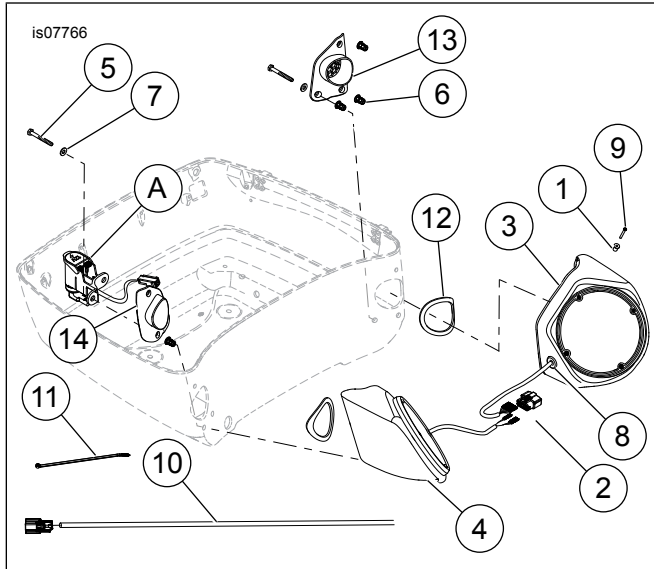

Figure 3. Service Parts: Speaker Enclosure Kit
See Figure 3 and Table 1.
9. See Figure 3. Install six jack nuts (6) into speaker enclosures.
10. Install gaskets (12) on speaker enclosures and insert brackets (13, 14).